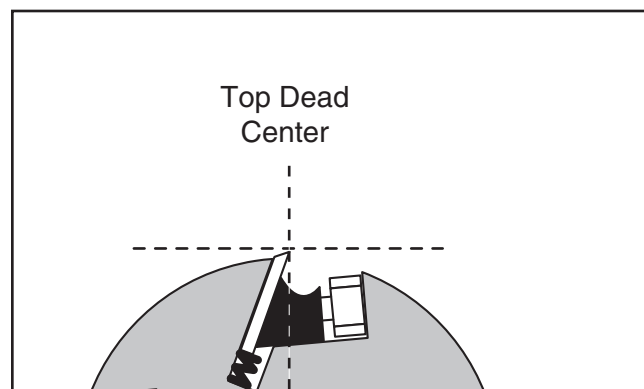

Figure 8. Cutterhead knife at top-dead-center.
2. Rotate the cutterhead pulley until one of the knives is at top-dead-center (TDC), as illustrated in **Figure 8**.